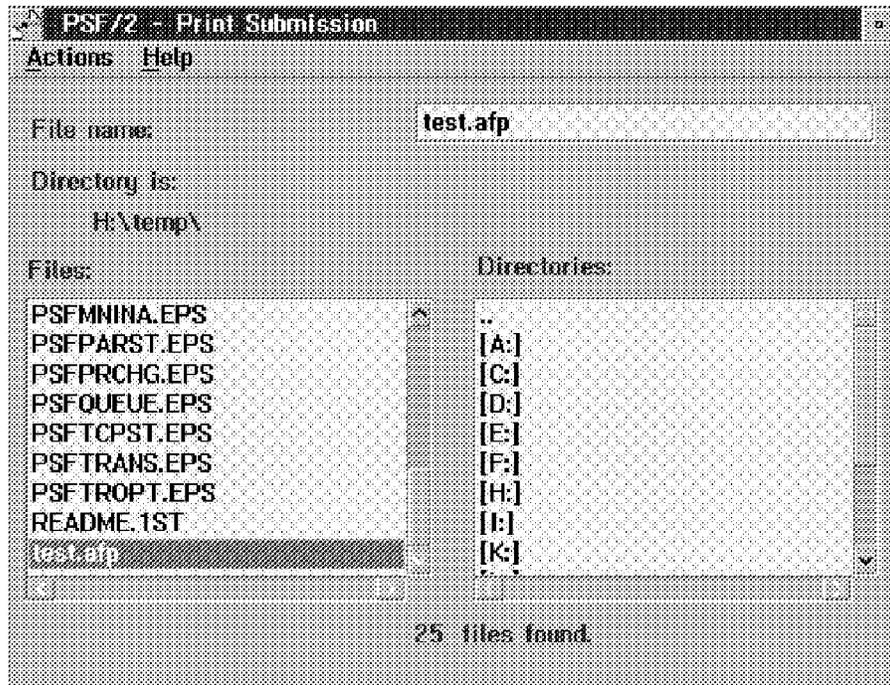

Figure 190. Print Submission Window
1. On the PSF/2 folder, click on the **Print Submitter** icon. The Print Submission window shown in Figure 190 will open. It shows a list of the files in the current directory on the left side and a list of directories and drives on the right side.